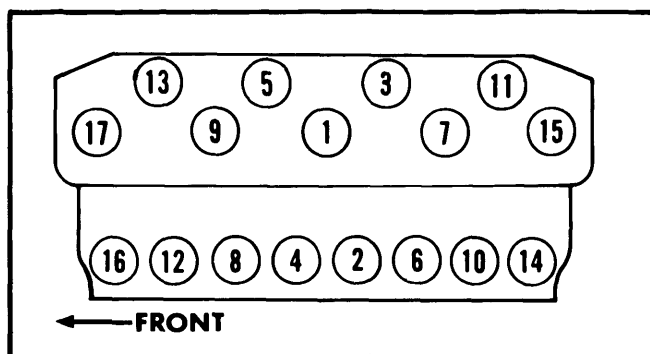

Fig. 1 Cylinder Head Tightening Sequence
**Installation** — Clean all gasket surfaces of cylinder block and head. Coat new gasket with suitable sealer. Install gasket and cylinder head on block. Install head bolts and tighten to specifications in two steps. Use tightening sequence shown in Fig. 1.